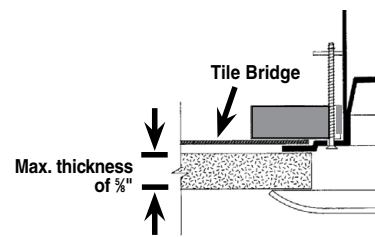

FIG. 3
- Figure 3 Enclosure installation from above ceiling using tile bridge (new construction). Rotating clamps are used to pre-mount tile bridge to enclosure, allowing system to be positioned in ceiling before tiles are set. Please note maximum ceiling thickness in this application is  $\frac{5}{8}$ " to allow grille studs to mount into enclosure.